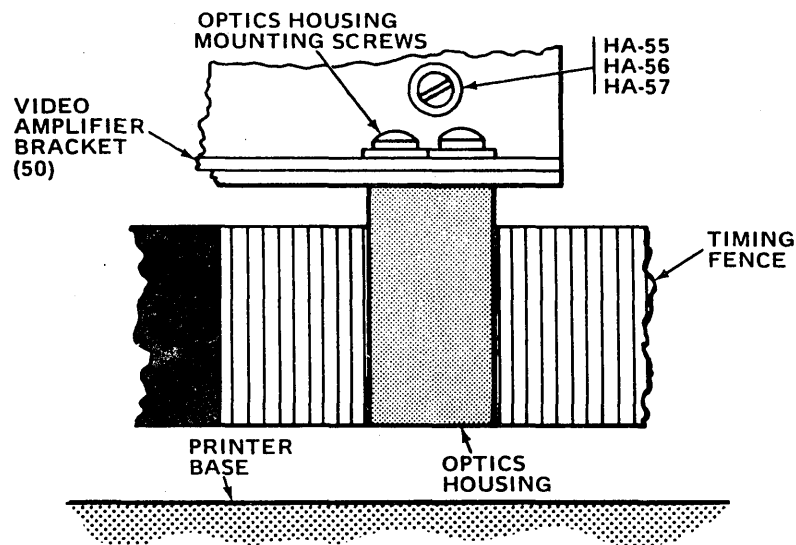

Figure 5-8. VERTICAL AND HORIZONTAL ALINEMENT OF SINGLE CHANNEL OPTICS HOUSING
2. Vertical and Horizontal Alignment of Optic Housing (Fig. 5-8)